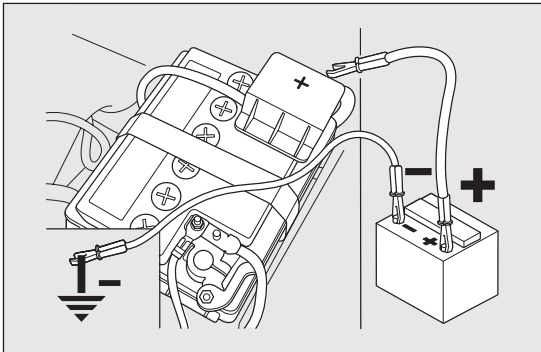

fig. 140
- connect the positive terminals (sign + near the terminal) of the two batteries with a jump lead fig. 140